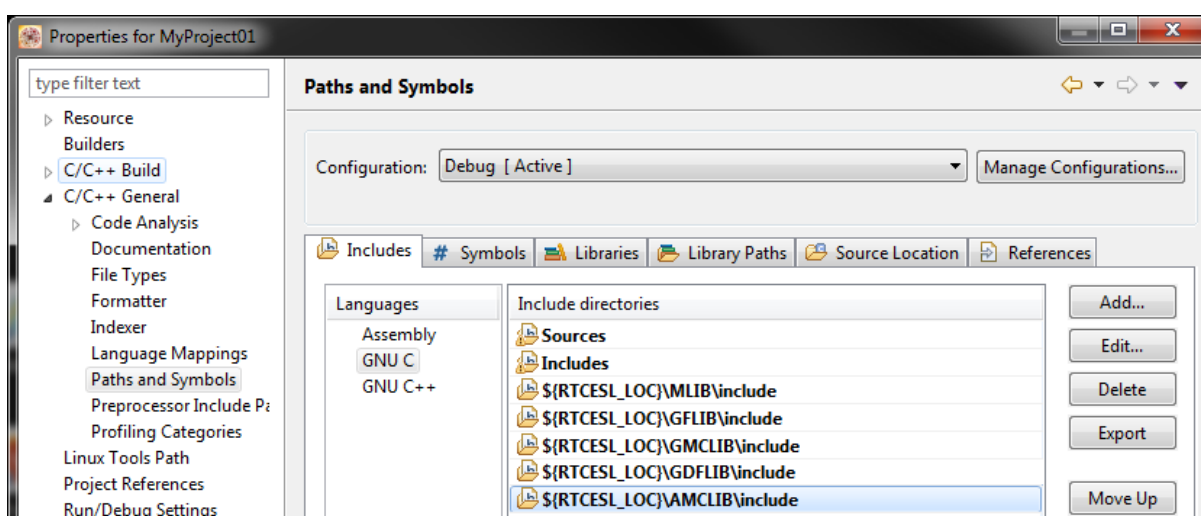

Figure 1-22. Compiler setting
27. In the right-hand dialog, select the Includes tab, and click GNU C in the Languages list. See Figure 1-22.
38. Click OK, and you will see the paths added in the list. See Figure 1-22. Click OK.